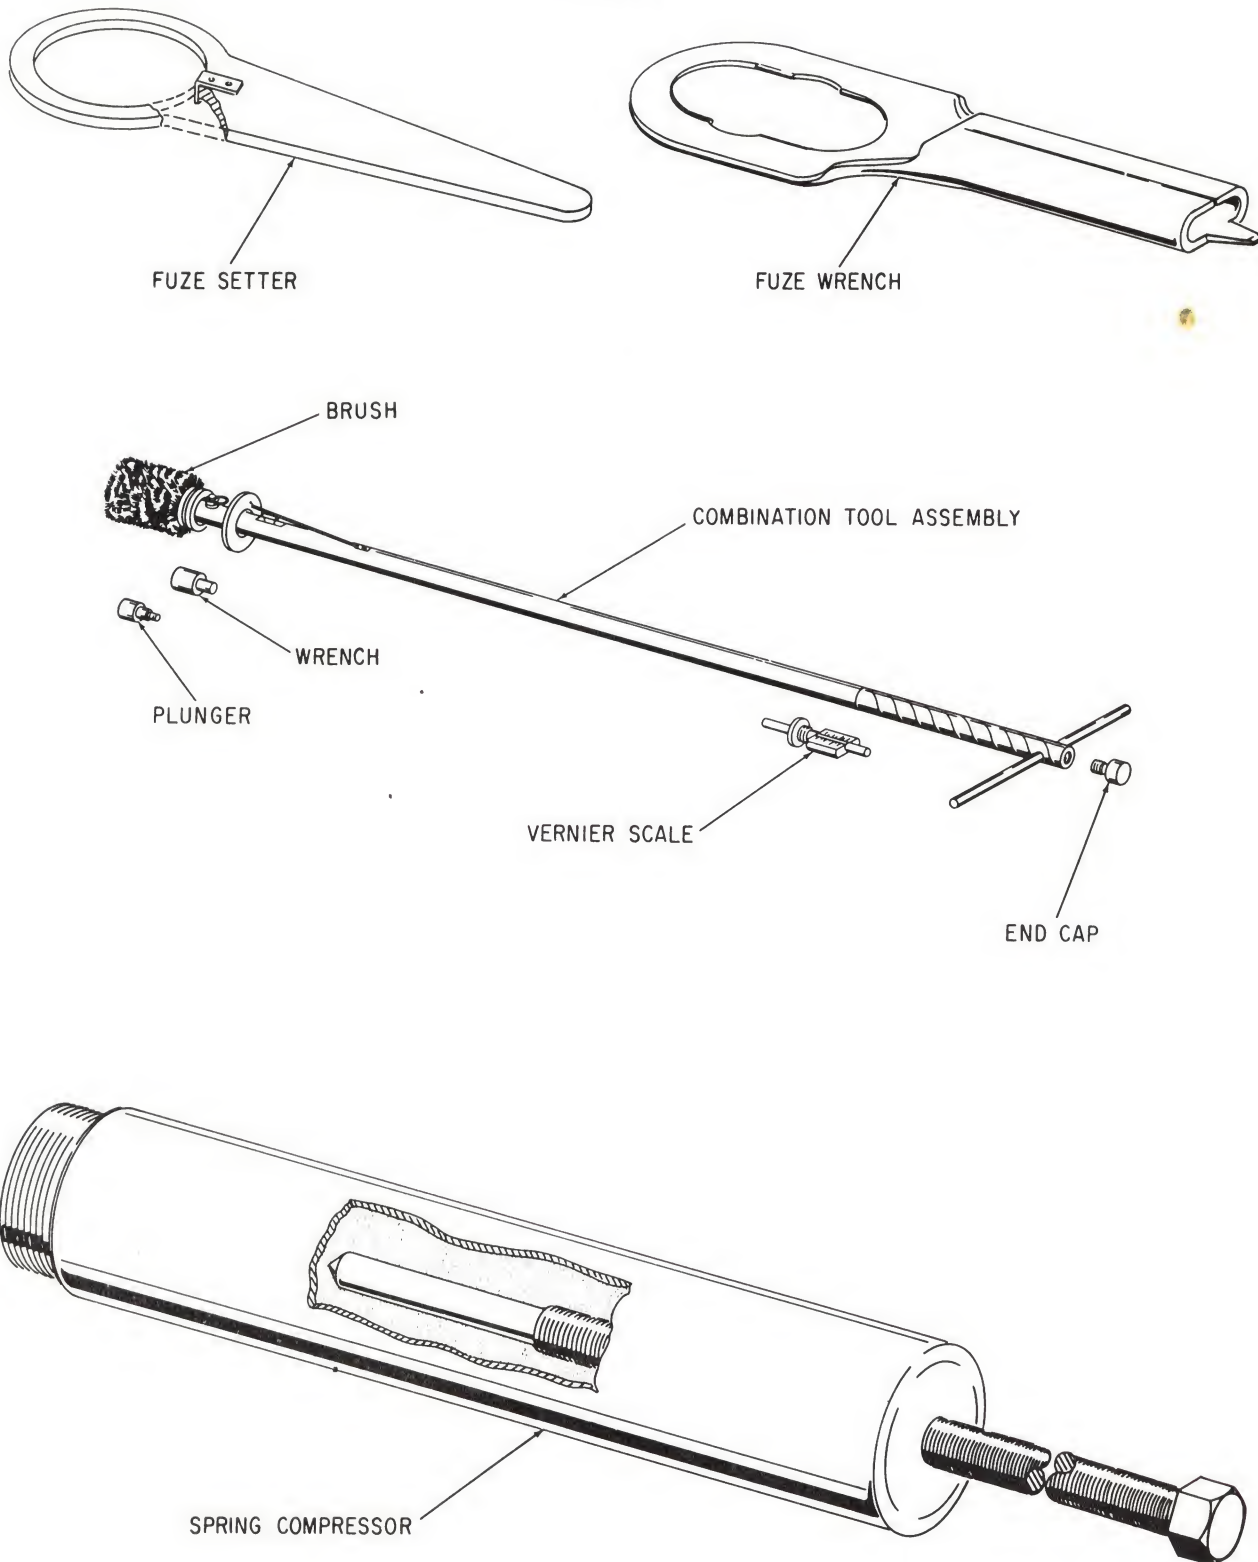

Figure 6-1. Special Tools
cartridges of earlier design. It has an ignition cartridge plus 8 increment charges. If a proximity fuze is to be used, remove the existing fuze with the fuze wrench (figure 6-1) and proceed as follows:
6-5. Special tools required to maintain the 81-MM Mortar are illustrated in figure 6-1 and are identified within the maintenance procedures where required.
6-14. After firing, the mortar barrel should be cleaned using the combination tool assembly (figure 6-1) and a cleaning solution consisting of one pound of laundry soap or sodium carbonate to each gallon of boiling fresh water.
6-27. When firing pin assembly is in NEUTRAL position, the firing pin (12, figure 6-3) must be recessed approximately 1/16-inch from the face of the firing-pin bushing (11). This can easily be checked using a piece of soap or wax secured to the end of a rod and forced down on the firing-pin bushing (11). A check of the impression made on the soap or wax would indicate whether the pin is properly recessed. In the DROP FIRE position, the firing pin (12) must protrude 0.075 ± 0.002 inch beyond the face of the firing pin bushing. The soap or wax method may also be used to check firing pin protrusion; however, the most effective method is to use the combination tool assembly (figure 6-1) as described in the following procedures.
1. Pull cocking lever (2) to DROP FIRE position and lock.